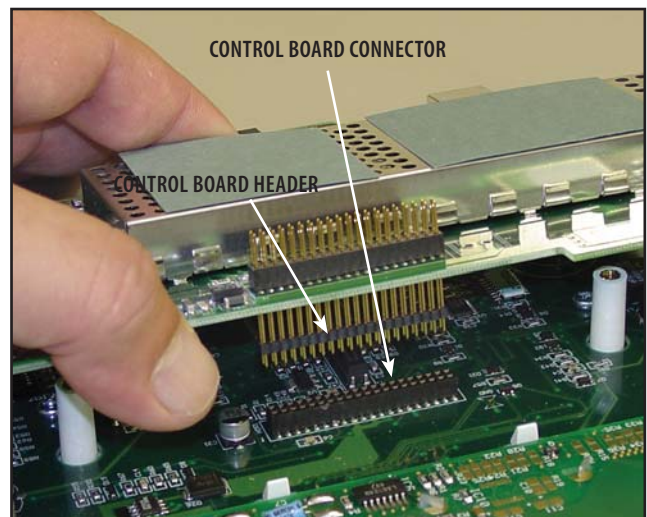

FIGURE 6.16
5. Carefully remove the Ultrasound Board. **See Figure 6.16.**
6. Remove the 40 Pin Header from the Ultrasound Board or the connector. **See Figure 6.16.**
8. Position the Ultrasound Board over the Control Board aligning the 40 Pin Header with the 40 Pin Connector on Control Board. **See Figure 6.16.**